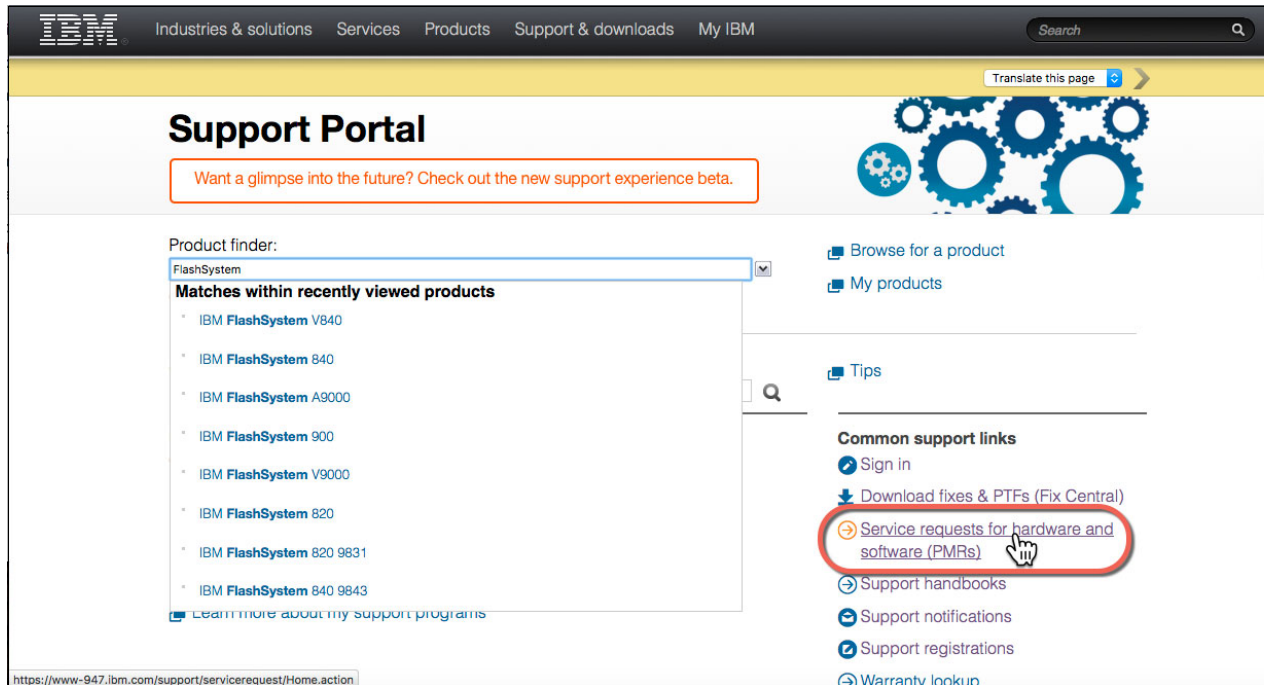

Figure 13-36 Service request link on Support Portal
IBM provides the service request (SR) problem submission tool (the link is highlighted in Figure 13-36) to electronically submit and manage service requests on the web. This tool replaces the Electronic Service Request (ESR) tool.